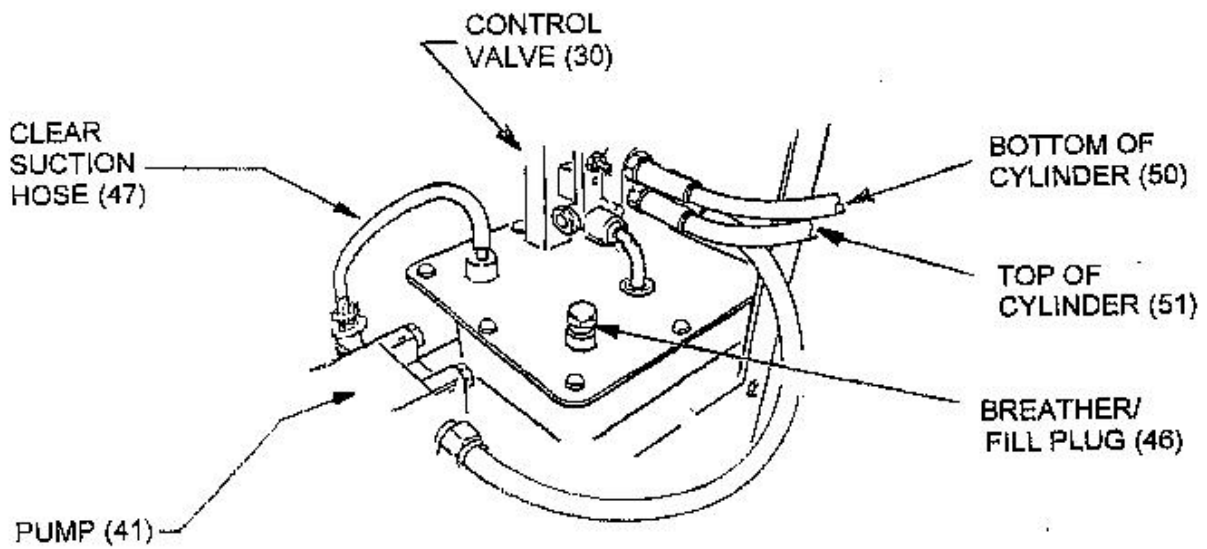

Figure 4- Hydraulic Reservoir Assembly
3. Remove the breather/fill plug (46) from the hydraulic reservoir.
- Observe the clear suction hose (Figure 4) and start the pump by switching on the motor. You should see hydraulic oil enter the suction hose. If you do not see hydraulic oil enter the suction hose, immediately switch off the motor and call METALpro customer service.